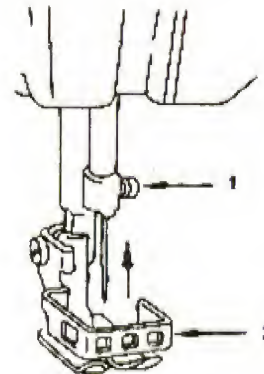

Figure 8
Loosen needle set screw '1' (see Figure 8) Insert the needle in the needle bar and push it up as far as it will go.
- Do not operate the machine without the finger guard '2' (see Figure 8).